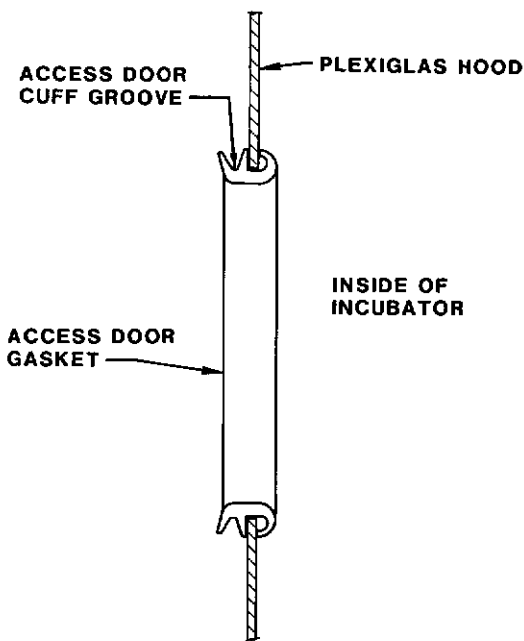

FIGURE 5.4 INSTALLATION OF ACCESS PORT GASKET
- G. **INSTALL AN ACCESS PORT GASKET** behind each access port as shown in Figure 5.4.